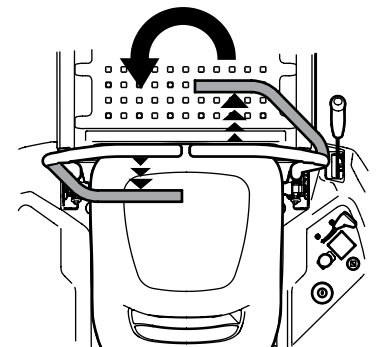

Figure 3-12
3. To turn counterclockwise, move the right drive control lever forward while simultaneously moving the left drive control lever rearward. See Figure 3-12.